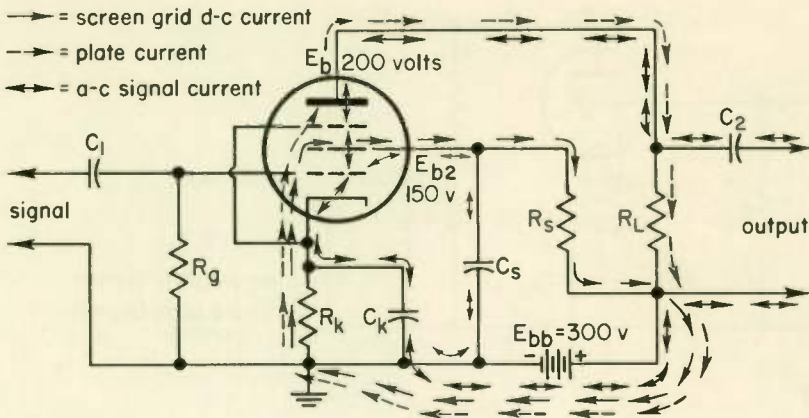

Fig. 20
16 SCREEN DROPPING RESISTOR . . . Although the screen voltage E_{b2} is usually less than the plate supply voltage E_{bb} , a screen resistor, R_s in Fig. 20, can be used to reduce E_{bb} to the proper value for the screen. In this way both the screen grid and the plate can be operated from a single power supply.
1. In Fig. 20 three different d-c voltage values must be applied to various elements of the tube in order for the tube to operate properly. These are (a) _____, (b) _____, and (c) _____.
2. In Fig. 20 all three voltages needed are obtained from a single power supply. The voltage drop across R_s provides the (a) _____ voltage, and the proper value for the screen grid voltage is _____.
3. What is the purpose of capacitor C_k in Fig. 20? _____
5. In Fig. 20 the voltage drop across R_s is (a) _____ volts. If the screen current, which is the current through R_s , is 10 ma, what value of resistance should be used for R_s ? (b) _____.
1. If the plate current in Fig. 20 is 50 ma, the plate power dissipation is (a) _____ watts. Could a 6K6 tube be used in this circuit? A tube manual shows that it has a maximum plate dissipation of 8.5 watts. (b) _____